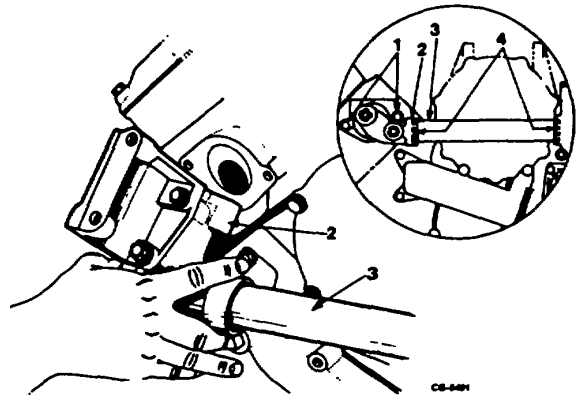

Figure 153. Removing Left Water Outlet and Return Tube
- 10. To remove water outlet and water return tube, remove two bolts from water outlet and remove assembly from cylinder head and water pump housing (Figure 153).